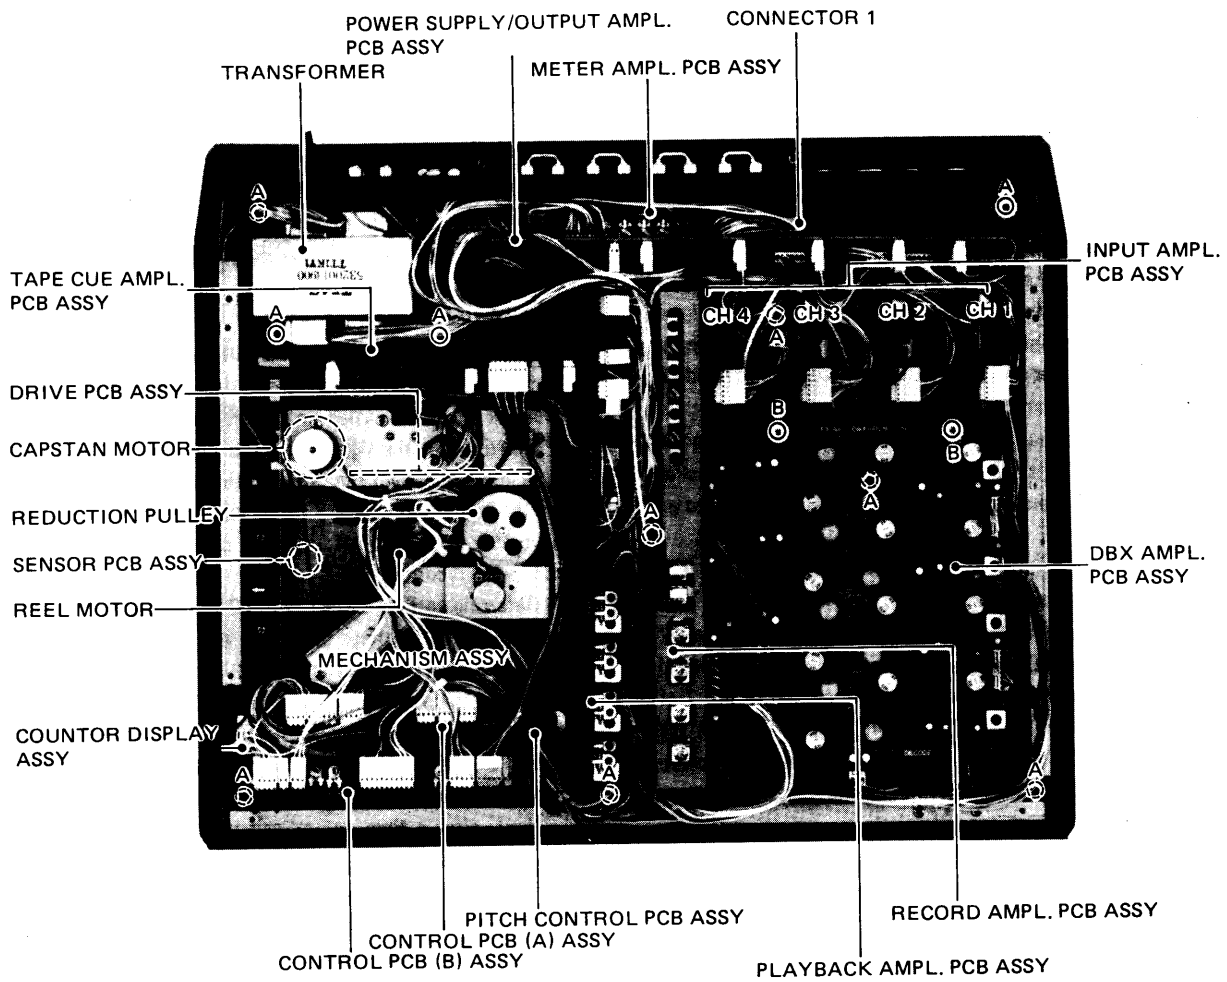

Fig. 5-1
- 1) Refer to Fig. 5-1.
- 2) Remove the nine tapping screws A mark from the rear side. Refer to Fig. 5-1. (Page 18)
- b) If the Trim Cover Assembly is to be removed completely, disconnect the cable harness connector (1) leading from the VU meters. Fig. 5-1.
- 2) Remove the bottom cover, and turn the reduction pulley (Refer to Fig. 5-1) by hand to bring the head base upon the PLAY position.